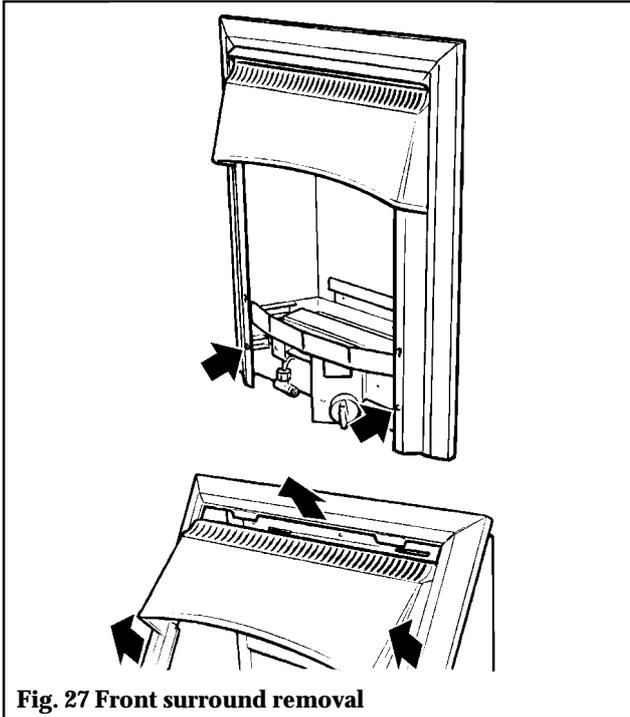

Fig. 27 Front surround removal
- 12.2.3 Remove the two screws securing the bottom of the front surround to the sides of the convection box. Raise the front surround to allow the retaining lugs at the top to clear the slots in the convection box hood and then lift clear (see figure 27).